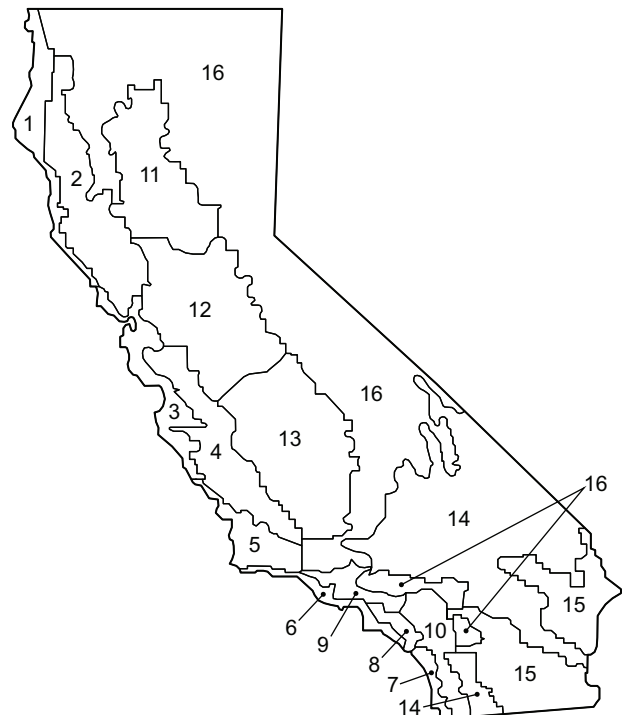

Fig. 86 – California Title 24 Zones
b. See Fig. 86 for map of California Title 24 zones.